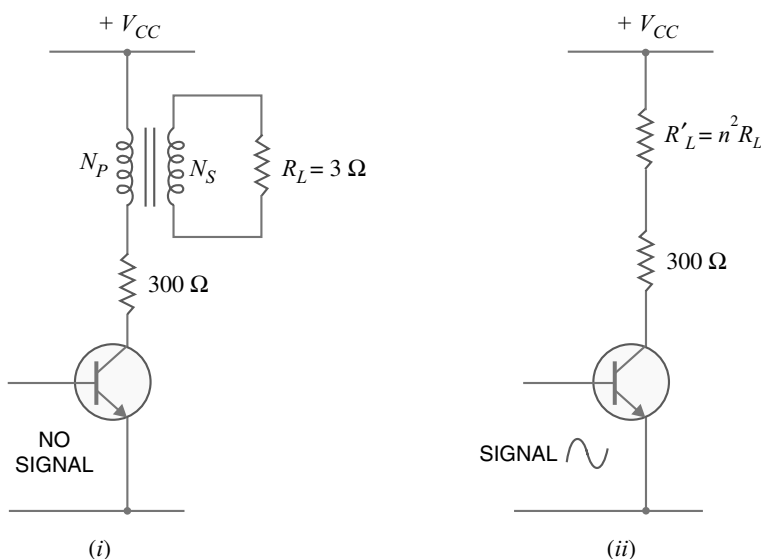

Fig. 9.27
**Solution.** When no signal is applied, the primary has a resistance of  $300 \Omega$  as shown in Fig. 9.27 (i). When signal is applied, the load  $R_L (= 3 \Omega)$  in the secondary appears as
$R'_L = n^2 R_L$  in the primary as shown in Fig. 9.27 (ii). Here  $n = N_p/N_s$  is the turn ratio of the step-down transformer.